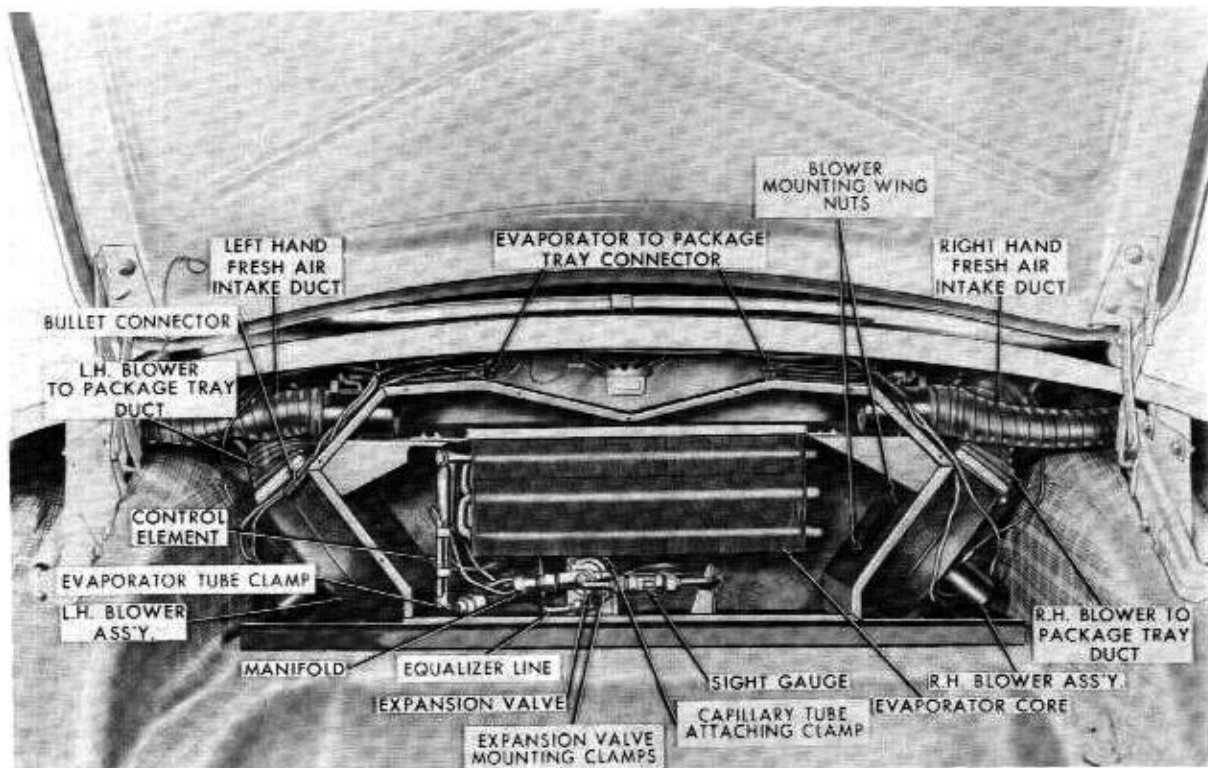

Fig. 7A-5—Overall View of Evaporator Assembly—(4L-737)
8. Remove two screws and clamps holding expansion valve to mounting bracket. Remove valve. (See figure 7A-5.)
9. Remove caps from small equalizer line and fitting on expansion valve. Using new seal, connect line to fitting. (See figure 7A-5).